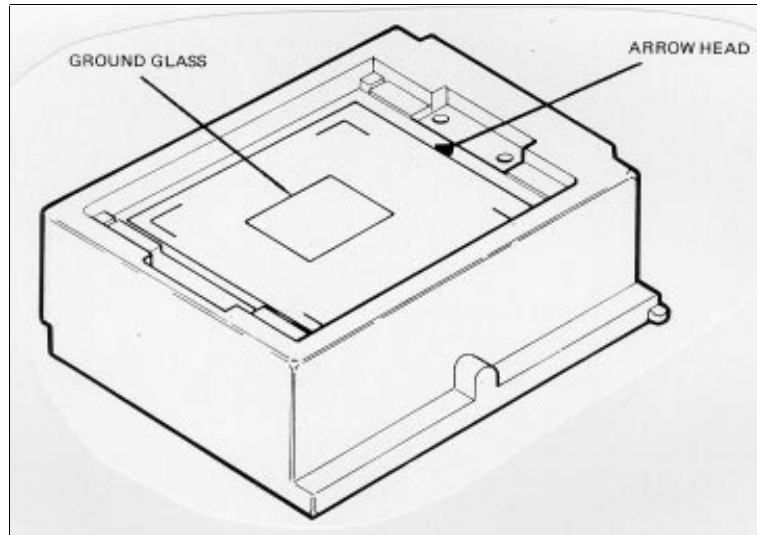

Figure 5-19. Replacement of Ground Glass
- b. Orient the ground glass with the frosted side facing the camera lens. Note the alignment arrowhead on the glass (figure 5-19). This arrow must be pointing to the right, as shown in the illustration, when the glass is installed.